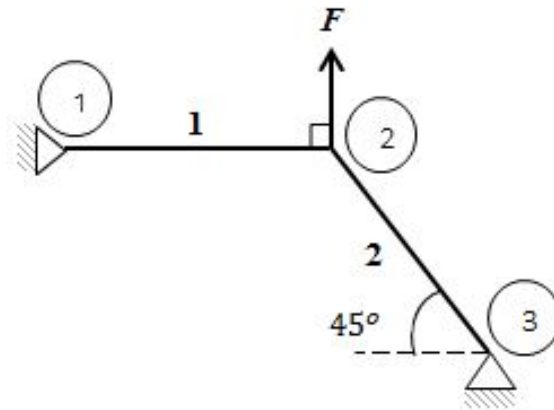

Figure 4:
4. The truss shown in Figure 4 supports a force of  $F = 2,000$  N. Both elements have the same axial rigidity of  $AE = 10^7$  N, the thermal expansion coefficient is  $\alpha = 10^{-6}/^{\circ}C$ , the length of each element is  $L = 1$  m. While the temperature of Element 1 remains constant, the temperature of Element 2 is dropped by  $100^{\circ}C$ .